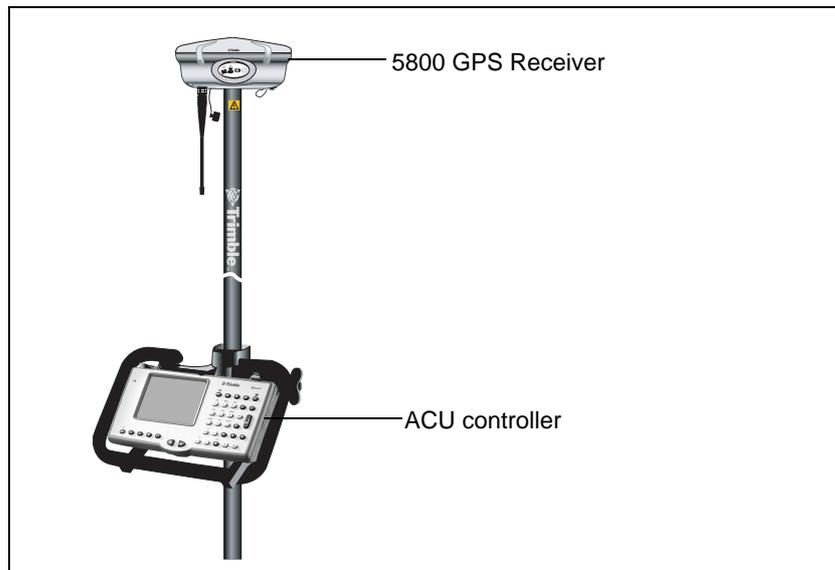

Figure 13.3 5800 receiver pole-mounted setup
4. If using the TSC1, connect the data-i/o cable from Port 1 of the receiver to a port on the TSC1. If using the Trimble ACU, or TSCe with Bluecap module, no cabling is required, as shown in Figure 13.3.